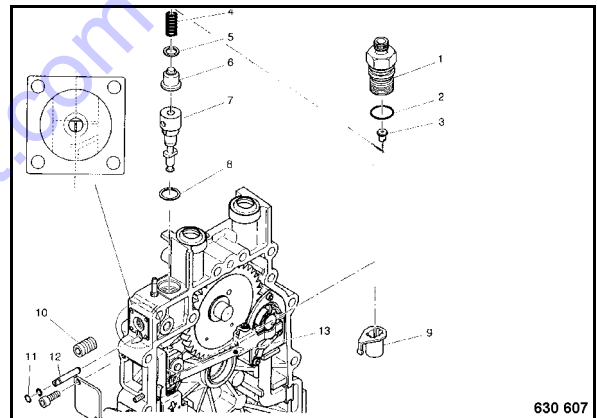

Fig. 87
- When inserting the element group make sure that the plunger flag is inserted through the control sleeve (for easier installation slightly turn the control sleeve from side to side) and that the eccentric pin (12) engages in the groove of the element cylinder (Fig. 87).